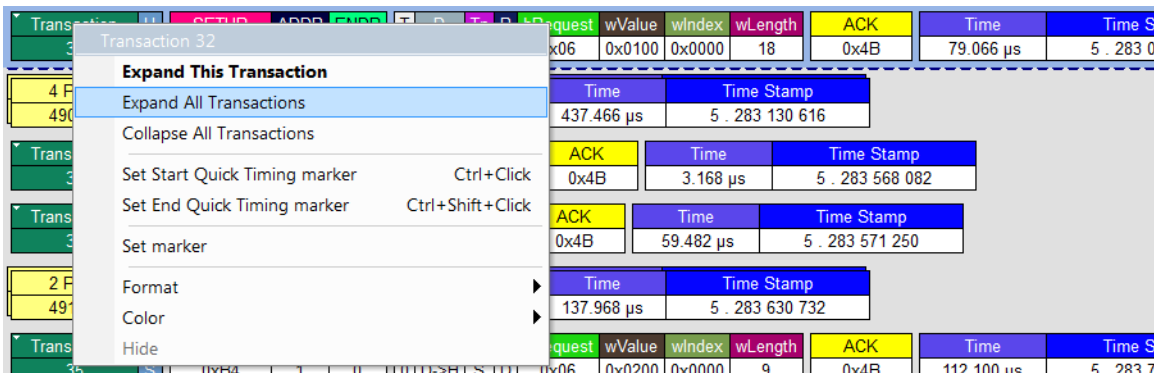

Figure 5.47: Expand Transaction Menu
1. Right-click the transaction number you wish to view to display the Expand Transaction menu (see Figure 5.47 on page 209.)